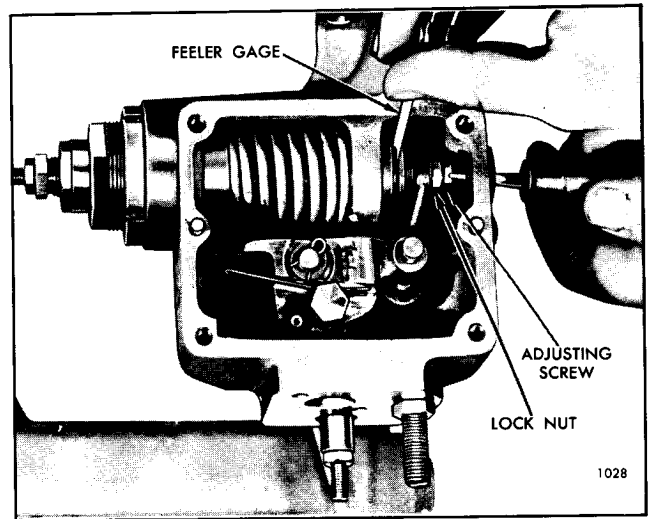

Fig. 5 - Low Speed Spring Gap Adjustment
Check the gap between the low speed spring cap (61) and modulating spring plunger (57) with a .0015" feeler gage, Fig. 5.